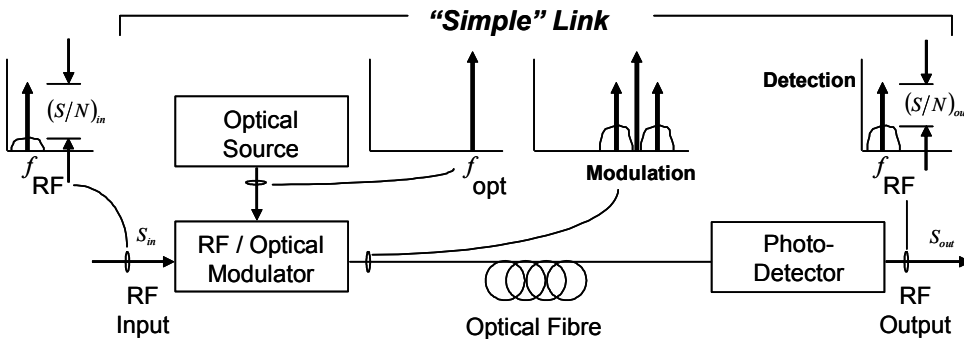

Fig. 1 Definition of an “intrinsic” analog fiber-optic link (after [2]).
Figure 1 illustrates an example of how a fiber-optic link conveys a radio-frequency (RF) microwave signal [2]. In the example shown, a signal consisting of a single frequency f_{RF} modulates a single-frequency optical carrier at frequency f_{opt} for propagation in the optical fiber as sidebands at frequencies $f_{opt} \pm f_{RF}$, which beat against the carrier in the photodetector to produce an output electronic signal at the original frequency f_{RF} . Figure 1 specifically depicts the spectral patterns of signals in a link that employs *intensity modulation* and *direct detection*.